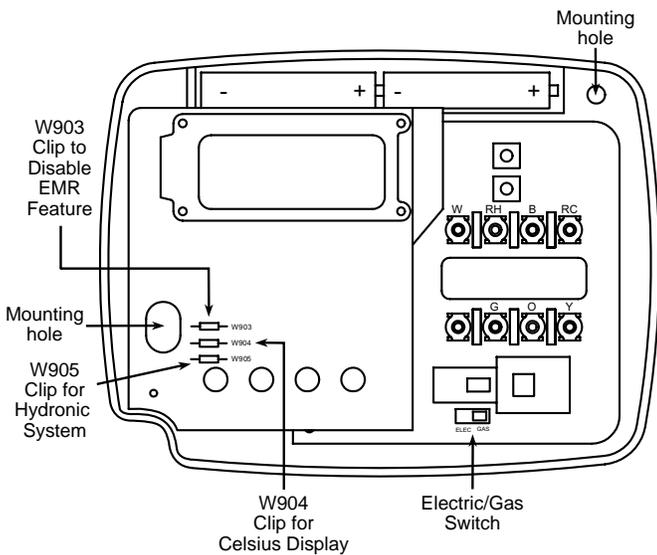

Figure 1. Thermostat base
This thermostat is configured from the factory to operate a heat/cool, fossil fuel (gas, oil, etc.), forced air system. It is configured correctly for any system that DOES NOT require the thermostat to energize the fan on a call for heat. If your system is an electric or heat-pump system that REQUIRES the thermostat to turn on the fan on a call for heat, locate the **GAS/ELECTRIC** switch (see fig. 1) and switch it to the **ELECTRIC** position. This will allow the thermostat to energize the fan immediately on a call for heat. If you are unsure if the heating/cooling system requires the thermostat to control the fan, contact a qualified heating and air conditioning service person.
To disable EMR, clip jumper W903 (see Fig. 1).
5. Fasten base loosely to wall, as shown in fig. 1, using two mounting screws. Adjust until level, and then tighten screws. (Leveling is for appearance only and will not affect thermostat operation.) If you are using existing mounting holes, or if holes drilled are too large and do not allow you to tighten base snugly, use plastic screw anchors to secure subbase.
This thermostat requires 2 "AAA" alkaline batteries to operate. If "**LO BATTERY**" is displayed, the batteries are low and should be replaced with fresh "AAA" Energizer® alkaline batteries. To replace the batteries, install the batteries along the top of the base (see fig. 1). The batteries must be installed with the positive(+) ends to the right.